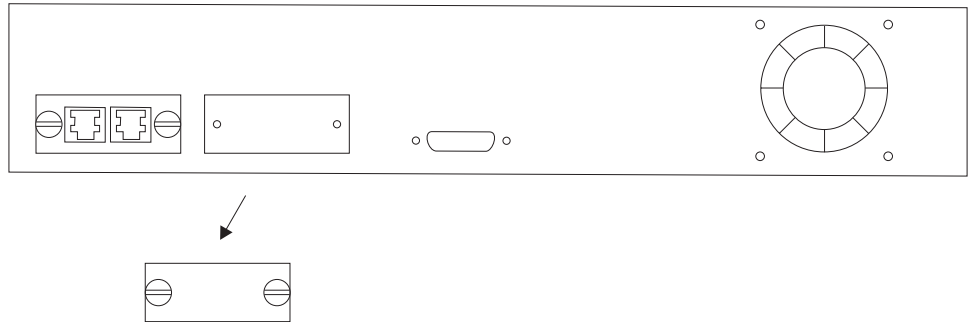

Figure 2-3. Removing the Blank Expansion Module Panel
**Step 2.** Remove the installed expansion module, or blank cover, by turning the two knobs on the back counterclockwise as shown in Figure 2-3 on page 2-3.